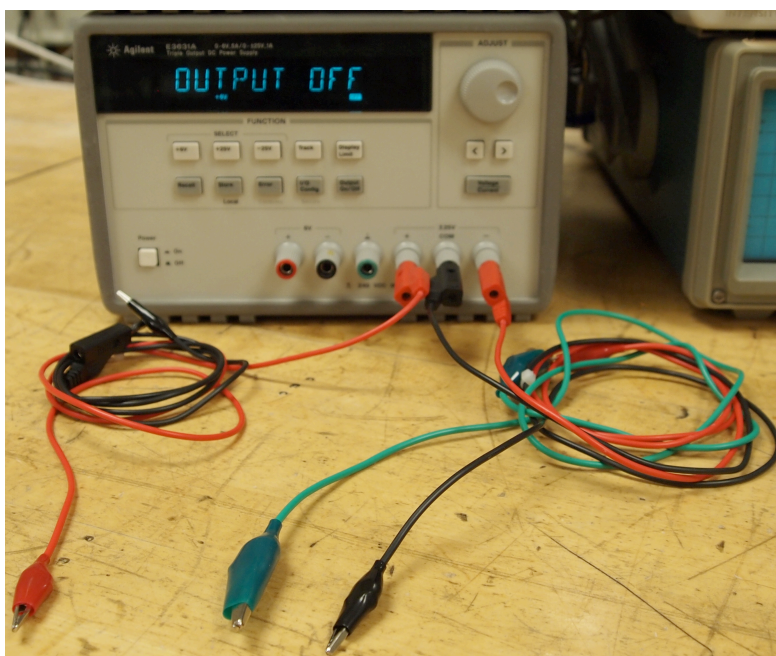

Figure 4. Power supply leads.
2) *Hook up leads to the power supply as shown in Fig. 4.* The power supply has so-called “banana plugs” to which cables with a banana plug at one end (and alligator clips at the other end) are connected. Whenever possible, we use certain cable colors to represent certain voltages. In the present case, we use red for +9V, black for 0V, and green for -9V. Unfortunately, the banana-plug cables in the lab are available only in red and black. Furthermore, the cables are in pairs connected with cable ties. The photo shows how one black cable lies unused on the left side, and a red cable is connected to a green alligator clip on the right side.